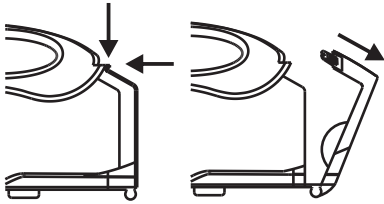

Fig. 6
- (A) We recommend fully charging before first using the system.
- (B) Plug into the DC Power Input Jack **13** and plug the other end into a live electrical outlet.
- (C) Once plugged, the Battery Charge Indicator **10** starts blinking to denote charging in progress. Over-discharged battery may take few minutes for indicator to start blinking. No blinking indicates the rechargeable battery has reached the end of its usable life.
- (D) A still red LED indicates insufficient power, recharging is required. A blinking green LED indicates charging in progress. A still green LED indicates fully charged.
- (E) When not in use, the battery will slowly self-discharge. If system will not be used for an extended period of time, it is advised to fully charge before storing. We also recommend to charge the system every three months when not used.
- (F) This system has a dual-step automatic power shut-off function. Power supply will automatically shut-off once LED indicator glows red for an extended of time to prevent possible damage. Plug in to recharge the system immediately from excessive self-discharged.
- (G) If you find that the operation time of system becomes noticeably decreased, even after fully charging, the battery should be replaced.
- (H) With proper care and charging, it is unlikely to replace the rechargeable battery for some time. Contact MIPRO customer service or your local distributor for a single 14.8V replacement rechargeable battery.
- (A) Turn off the system. Open the battery compartment by pressing down on the two tabs at the top of the battery compartment. The door will hinge open. See Fig. 6.